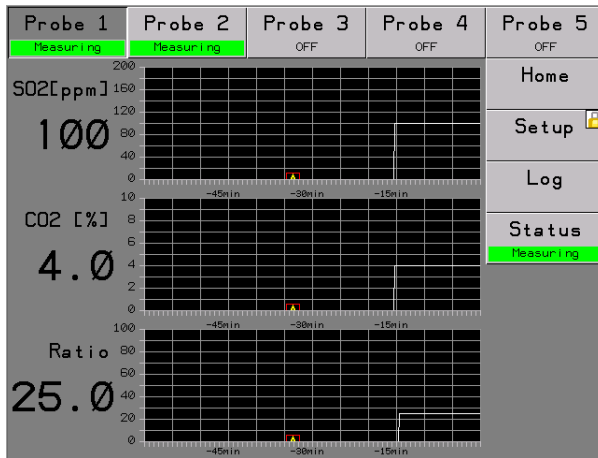

Figure 4-3: Probe 1 – Probes and analyzing cabinet in measuring state
Probe 1...5 pages as shown in Figure 4-3 displays the current values and trend curves of SO2, CO2 and SO2/CO2 ratio values of the selected probe. The values are shown for the last 60 minutes.
- **Measuring:** the probe is in measurement mode (see Figure 4-3)